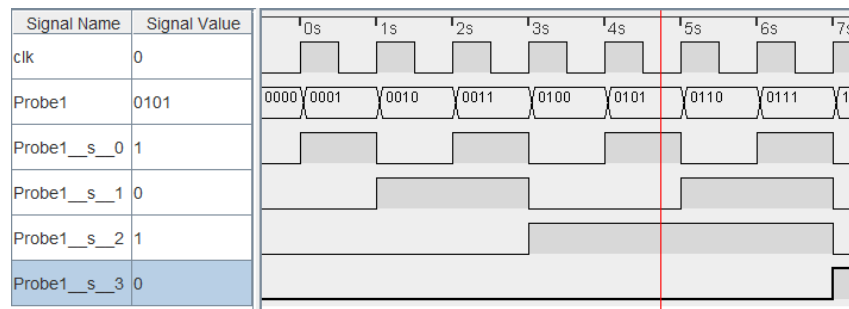

Figure 7.7: Timing Diagram for Up Counter
Logisim-Evolution can generate a timing diagram, called a *chronogram*, for a sequential circuit. That is a representation of the various signals in a circuit and how those signals change over time. Figure 7.7 is the timing diagram for an Up counter.
At the top of Figure 7.7 is a scale that indicates the number of seconds that the counter has been operating. The first trace is the input `clk` signal. The clock goes high at the start of each second and then goes low at the half-second mark. Under the clock is the “Probe1” signal. Because that is a four-bit number *Logisim-Evolution* displays the number, but under that number is a breakout of the four bits that make up that number. Thus, at time zero “Probe1” is 0001 and “Probe1__s_0” (that stands for “Probe 1, Signal 0”) is high while the other bits are low. The *Logisim-Evolution* chronogram includes a cursor indicated by a red line (found just before the five second tick in Figure 7.7) that can be placed anywhere along the diagram. The cursor sets the values of each signal in the area on the left edge of the diagram, so the cursor in Figure 7.7 is pointing to a spot where the `clk` is low, `Probe1` is at 0101, and so forth.
3. Set SIMULATE -> TICK FREQUENCY to 4 Hertz. This will simulate a clock that ticks once per second, as in Figure 7.7. While the